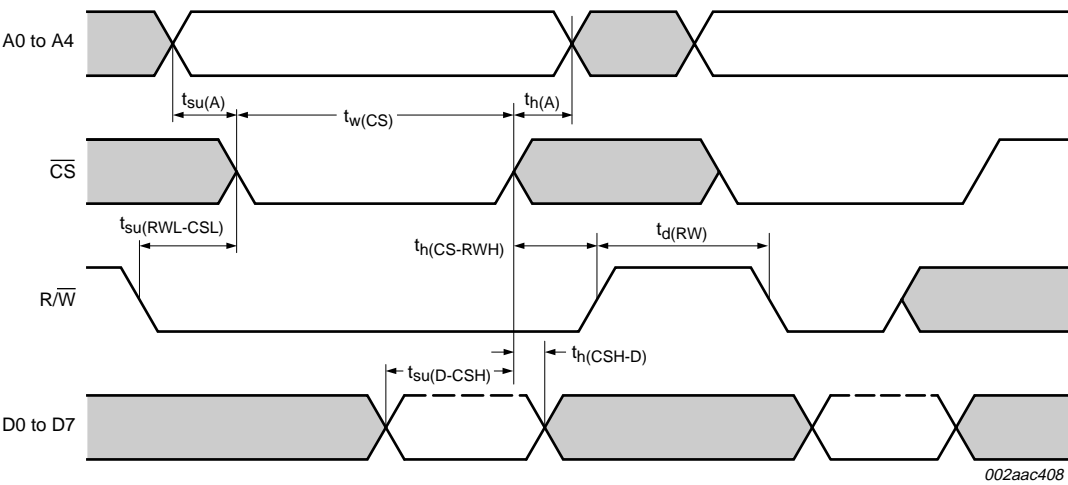

Fig 12. General write timing in 68 mode
(1) $\overline{\text{CS}}$ timing during a write cycle. See Figure 12.